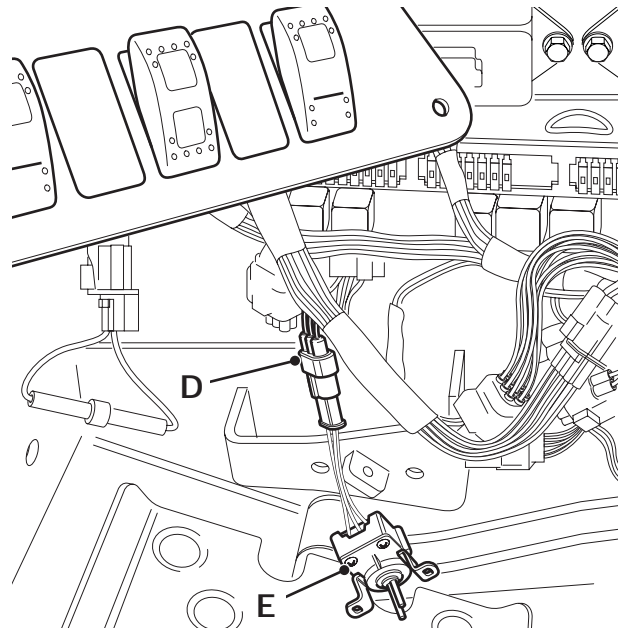

Fig 55.
- c Remove blanking plug from connector D ⇒ Fig 55. (□ E-64) (fed by wire numbers 144B, 509 and 600AH). Connect potentiometer E into the harness as shown. Potentiometer is part number 716/30334. If required, fit knob 331/21736.